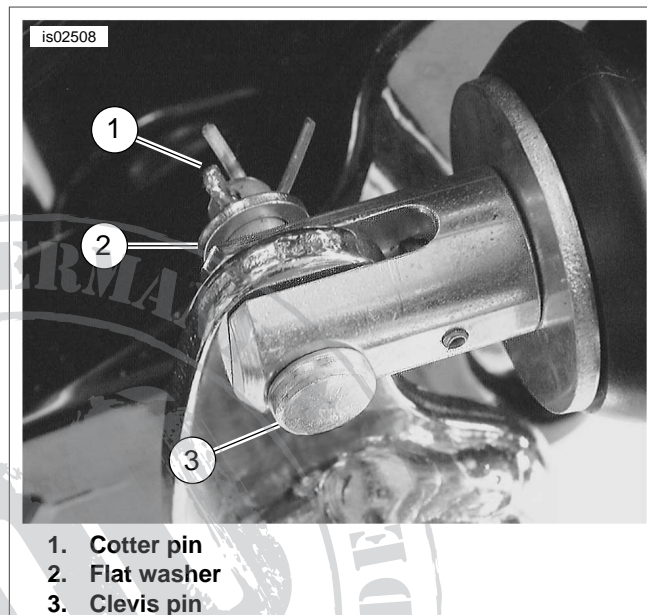

Figure 4. Master Cylinder Push Rod to Brake Pedal
1. See Figure 4. Remove cotter pin (1) and flat washer (2) from clevis pin.
2. Supporting rear brake pedal/master cylinder assembly in vise, tap out clevis pin (3) using a brass drift and remove master cylinder assembly from brake pedal flange.